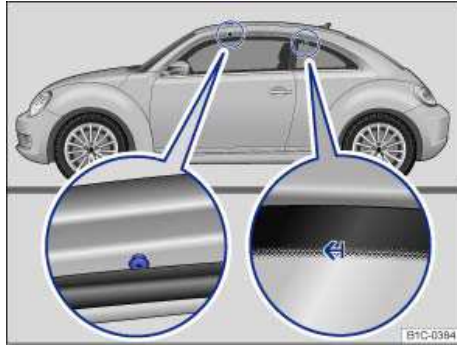

Fig. 91 Attachment points for the base carrier and roof rack.
The front mountings for the base carrier are on the underside of the roof frame, underneath the rubber gasket ⇒ fig. 91 (left magnified view). The rear markings for the location of the base carrier are on the rear side windows (right magnified view).
- Secure the roof rack base carrier only at the attachment points shown in the illustration ⇒ fig. 91.